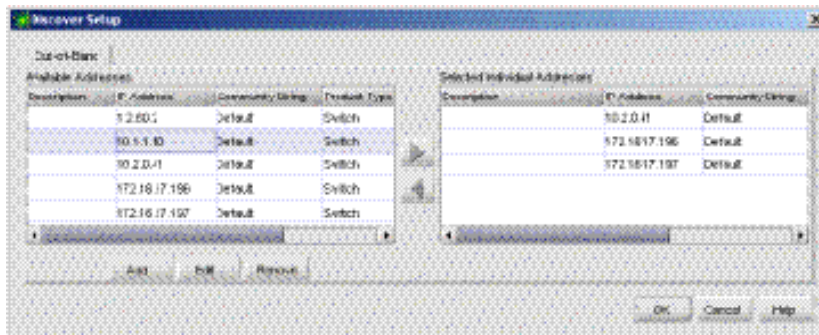

Figure 4-21 Discover Setup Dialog Box
- b. Select *Setup* from the *Discover* menu(*Discover>Setup*). The *Discover Setup* dialog box appears (Figure 4-21).
- b. Delete the icon representing the reset switch. At the SAN management application, select *Setup* from the *Discover* menu. The *Discover Setup* dialog box appears (Figure 4-21).